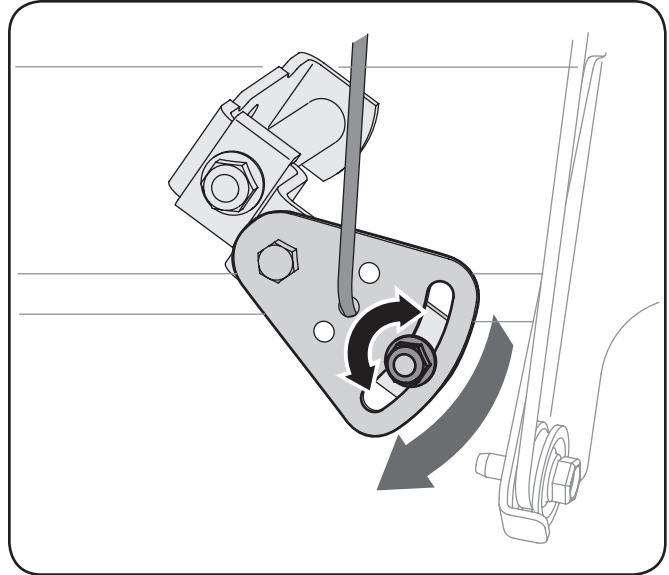

Figure 6-9
2. Loosen the hex nut on the shift cable index bracket. See Figure 6-9.